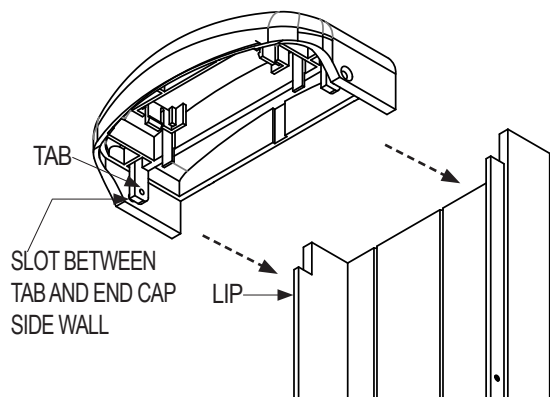

Figure 4.5 End Cap Alignment
16. Match and insert the Back Box Lips into the Slots between the End Cap Tabs and the End Cap Side Walls. (Figure 4.5)